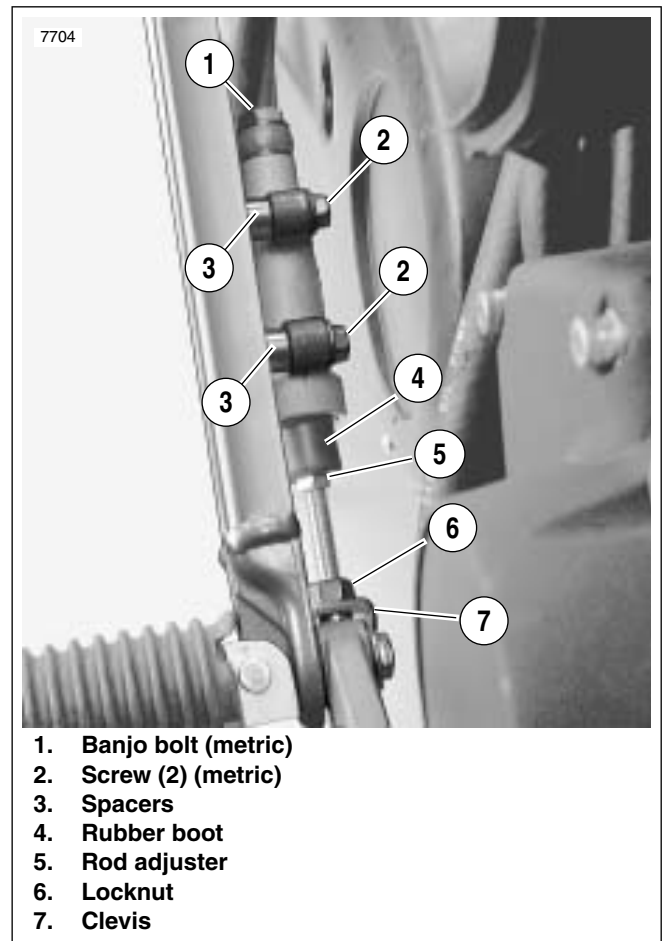

Figure 2-52. Master Cylinder Mounting
2. See Figure 2-52. Apply LOCTITE 243 (blue) to both screws. Attach master cylinder to frame with spacers between master cylinder and footrest support. Tighten to 48-72 **in-lbs** (5-8 Nm).
5. See Figure 2-52. Set brake pedal height.
- a. Loosen locknut (6).
- b. Turn rod adjuster (5) to obtain correct position.
- c. Tighten locknut (6).